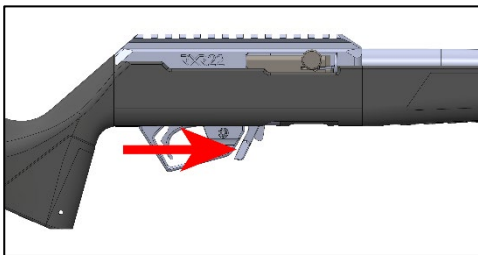

Figure 11
**WARNING!** Negligent discharge can cause serious injury or death. Always keep the safety on and your finger away from the trigger until you have clearly identified your target, lined up your sights on the intended target and verified that the backstop is clear. Always store and transport your firearm: (1) with the magazine and chamber UNLOADED; (2) with the locking device properly installed; and (3) with the safety ON.
- Keeping your finger away from the trigger and outside of the trigger guard, be prepared to catch the magazine with one hand and press forward on the magazine latch to remove the magazine – Figure 11. It should drop free from the firearm with little effort.